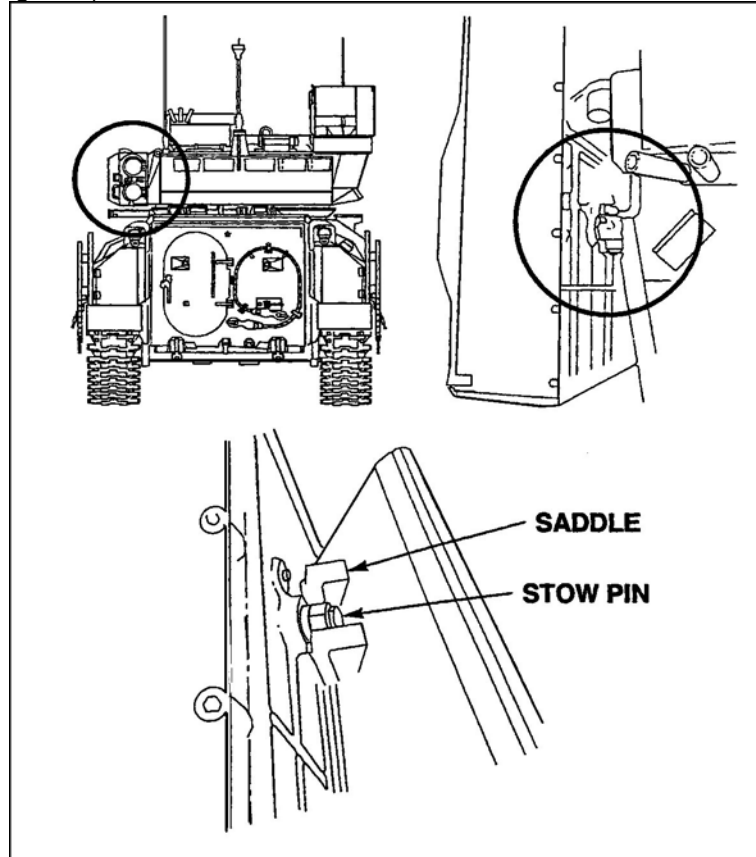

Figure 5. Saddle and stow pin.
- e. Depress the TOW launcher by turning the handwheel forward to clear the stow pin from the saddle (Figure 5).